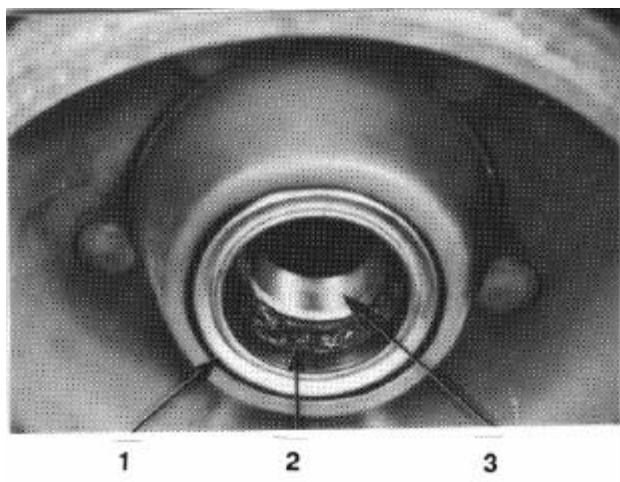

Figure 34 Confirm Uniform Seating of Seal
4. Drive hub seal into hub until it bottoms in hub bore. Do not continue to drive after seal is once seated as this will distort or damage the seal. After removal of seal installer tool, clean off excess Gasket Eliminator. Be sure to confirm uniform seating of seal (Figure 34).